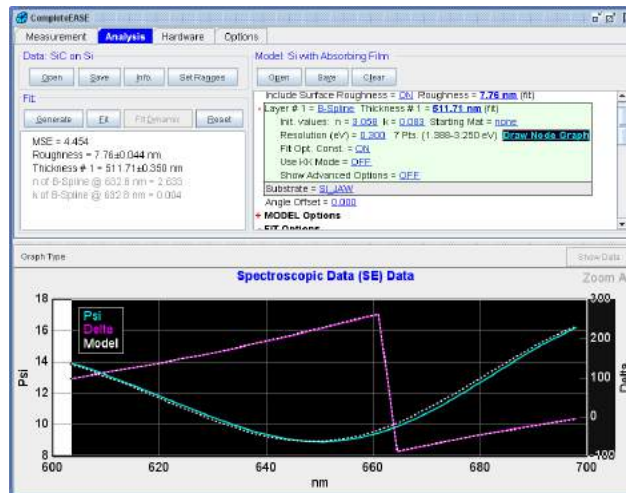

Figure 4-33. Expanding the current wavelength range to longer region.
2. Range select wavelengths of 600nm and above. For this, start the mouse-button just inside the current graph (near 600nm) and then drag beyond the right graph boundary to incorporate all longer wavelengths (Figure 4-33).